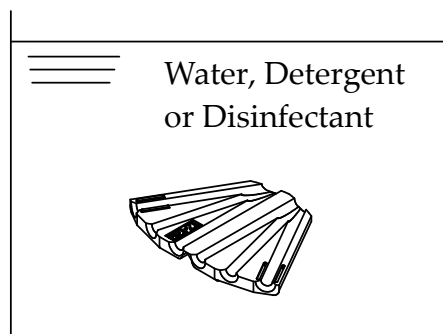

Fig.18 Immersion of the biopsy attachment EZU-PA5B4
- 2) Immerge the biopsy attachment into the diluted detergent for the recommended contact time of the detergent. (see figure 18).
- 2) Immerge the biopsy attachment into the disinfectant. (see figure 18). Set a clock to insure the recommended contact time is 5 minutes.